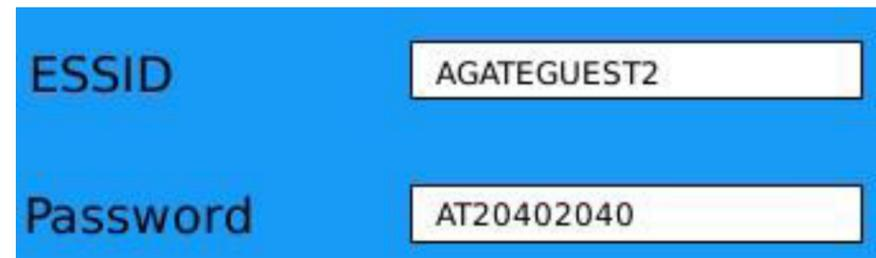

Figure 72. Enter wireless network configurations
- b. Enter the identifying name of the wireless network in the **ESSID field** (Figure 72).
- c. Enter the wireless network password in the **Password field** (Figure 72).